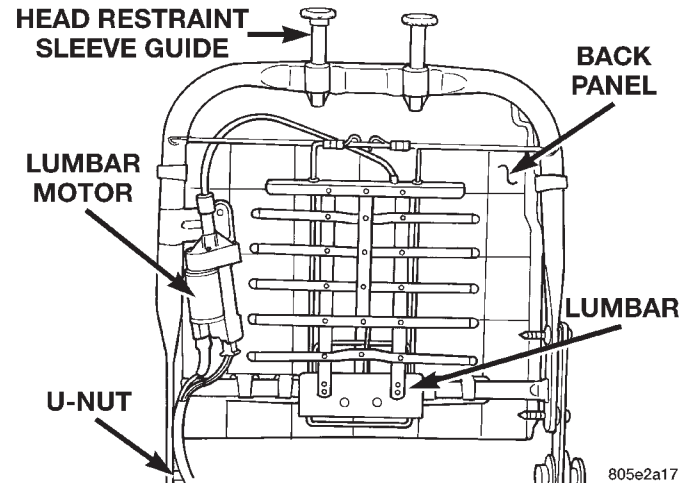

Fig. 7 Power Lumbar Adjuster and Motor
(1) Remove the power recliner adjuster and motor from the seat back frame. See Power Recliner Adjuster and Motor in this group for the procedures.
(2) Remove all of the seat back trim from the seat back. Refer to Group 23 - Body for the procedures.
(3) Replace the seat back frame assembly, which includes the lumbar adjuster and motor (Fig. 7).
(4) Reverse the removal procedures to install.